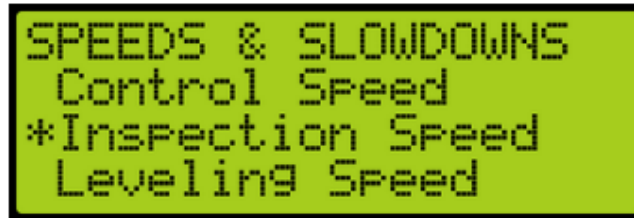

Figure 12: SPEEDS & SLOWDOWNS Menu – Inspection Speed
5. From the SPEEDS & SLOWDOWNS menu, scroll and select Inspection Control. See Figure 12.